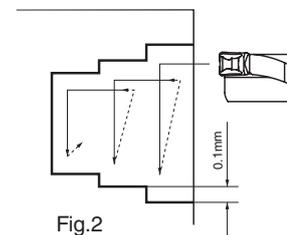

Fig.2
- When widening the face groove width (Ref. to Fig.2) Apply the "Step Turning". Then perform finishing.